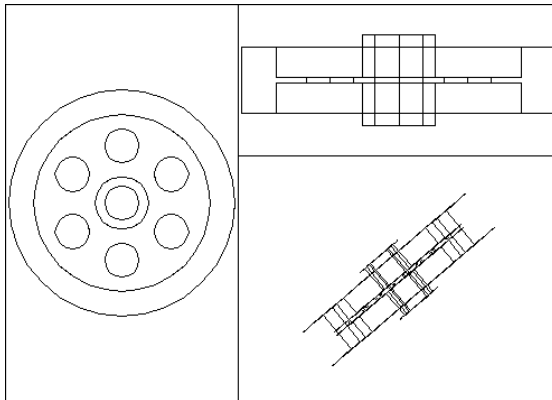

**Figure 22-30:** An example of using SOLVIEW.
15. Choose View ⇄ Motion Path Animations. Set the Camera section to Path and click the Select Path button. Select Motion Path 1 and name it Motion Path 1. (See Figure 22-30.) Set the Target section to Path and click the Select Path button. Select Motion Path 2 and name it Motion Path 2. Set the frame rate to 15 and the number of frames to 45, which makes a 3-second movie. Set the visual style to 3D Hidden. Choose your preferred movie format and click OK. Save the movie as ab22--03b.wmv (or another format) in your AutoCAD Bible folder and click Save.
Figure 22-30 shows an example with a top view, an auxiliary view, and a section.